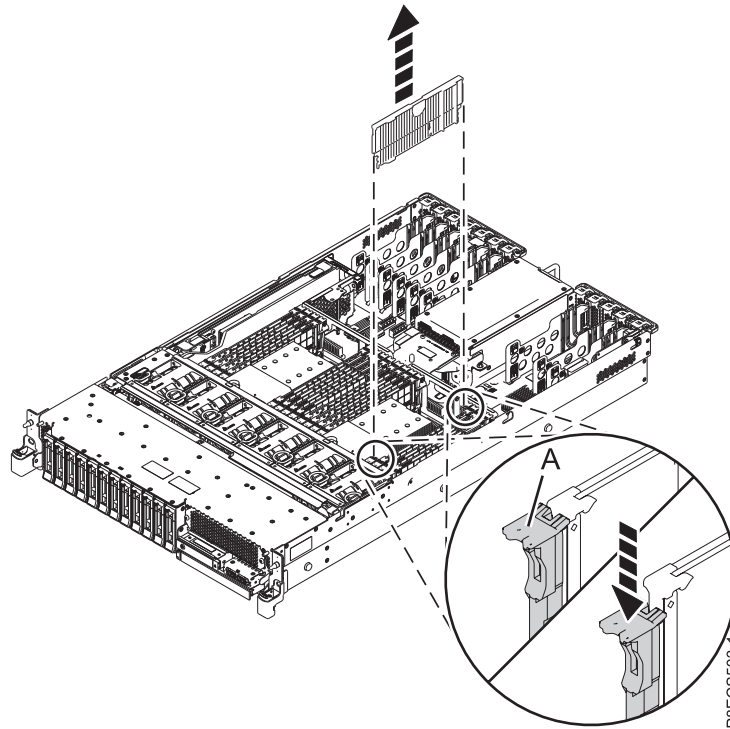

Figure 2. Removing a memory module filler from the memory module slot in an 5148-21L, 5148-22L, 8247-21L, 8247-22L, 8284-21A, or 8284-22A system
- a. To unlock the memory module filler from its connector in the slot, push the locking tabs (**A**) in the direction that is shown in Figure 2 on page 5. The lever action of the tabs forces the memory module filler out of the connector.